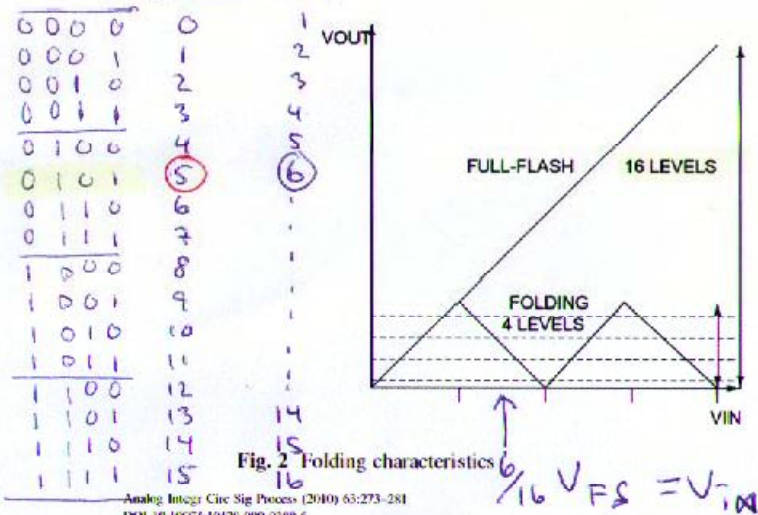

Fig. 2 Folding characteristics
- Fig. 2 illustrates the operation of the folding circuit.